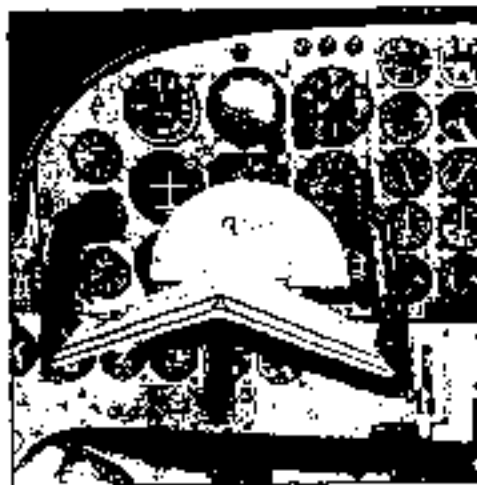

Fig. 5-34 Attach a protractor to control wheel
- (5) Retighten nut of feel spring on bulkhead. (See Para. 5.5.3)
- (6) After rigging of cable is accomplished, remove rig pins.
- (7) Attach a protractor to control wheel for pilot. (See Fig. 5-34)
- (8) Place elevator in neutral position. Rig tension of control column chain by means of follow through assembly of control column and turnbuckle(s) under floor or on both sides of column, so that play of control wheel in the direction of rotation may be less than 1.5°.